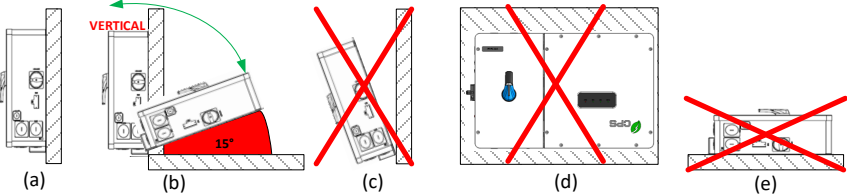

Figure 3-2 Inverter Mounting Options
(2) **Installation Method (see Figure 3-2):**